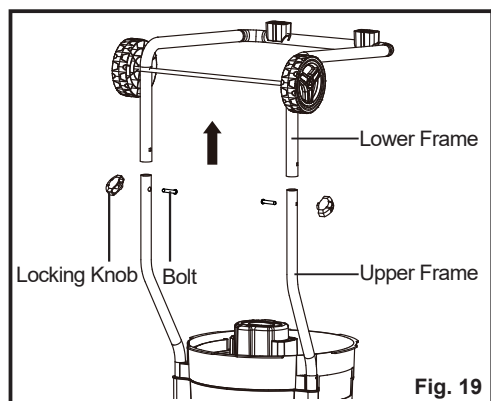

Fig. 19
- Lay the hopper unit on its side. Release the knobs to separate the upper and lower frames (Fig. 19).